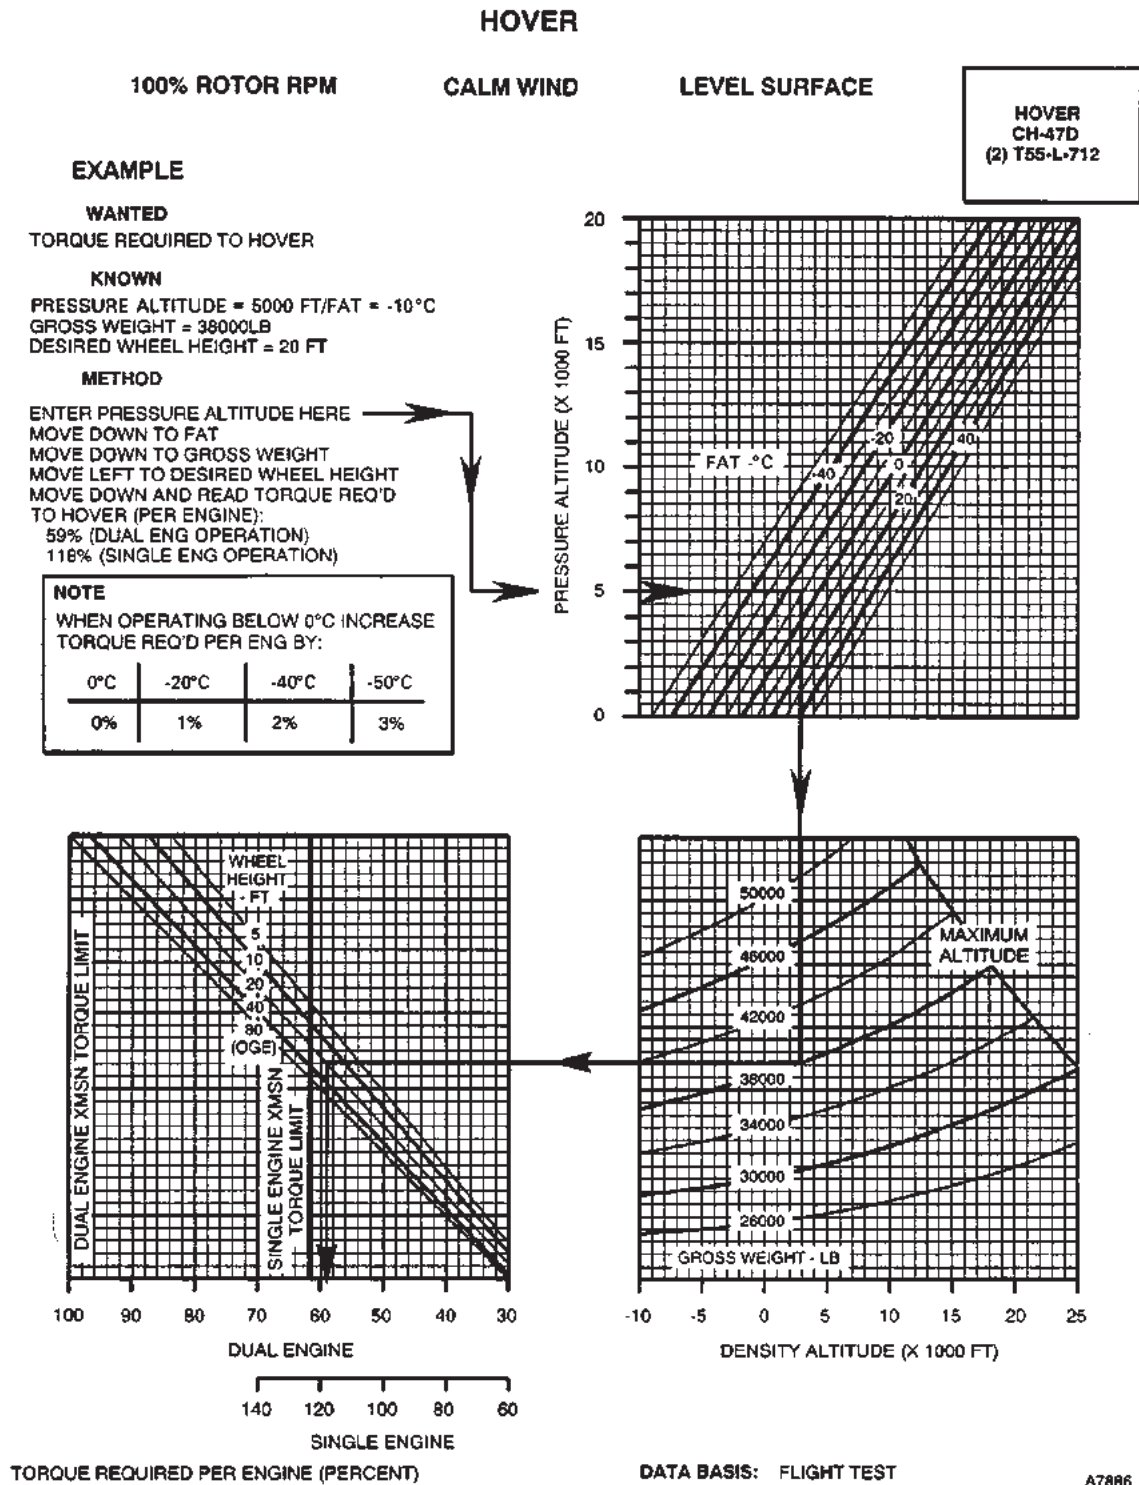

Figure 7-5-1. Hover Chart
The hover chart, figure 7-5-1, presents torque required to hover at 100% RRPM at various combinations of PA, FAT, GW, and wheel height for single and dual engine operation.
c. EAPS installation has negligible effect on hover torque figure 7-5-1.